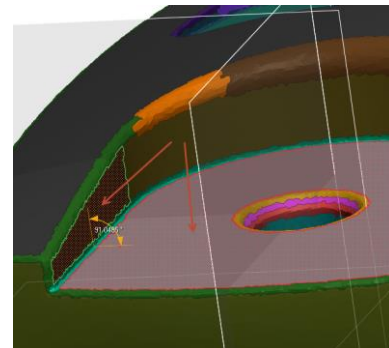

Figure 154
- Select the **Measure Angle** button then click on the two planar regions shown in **Figure 154**.